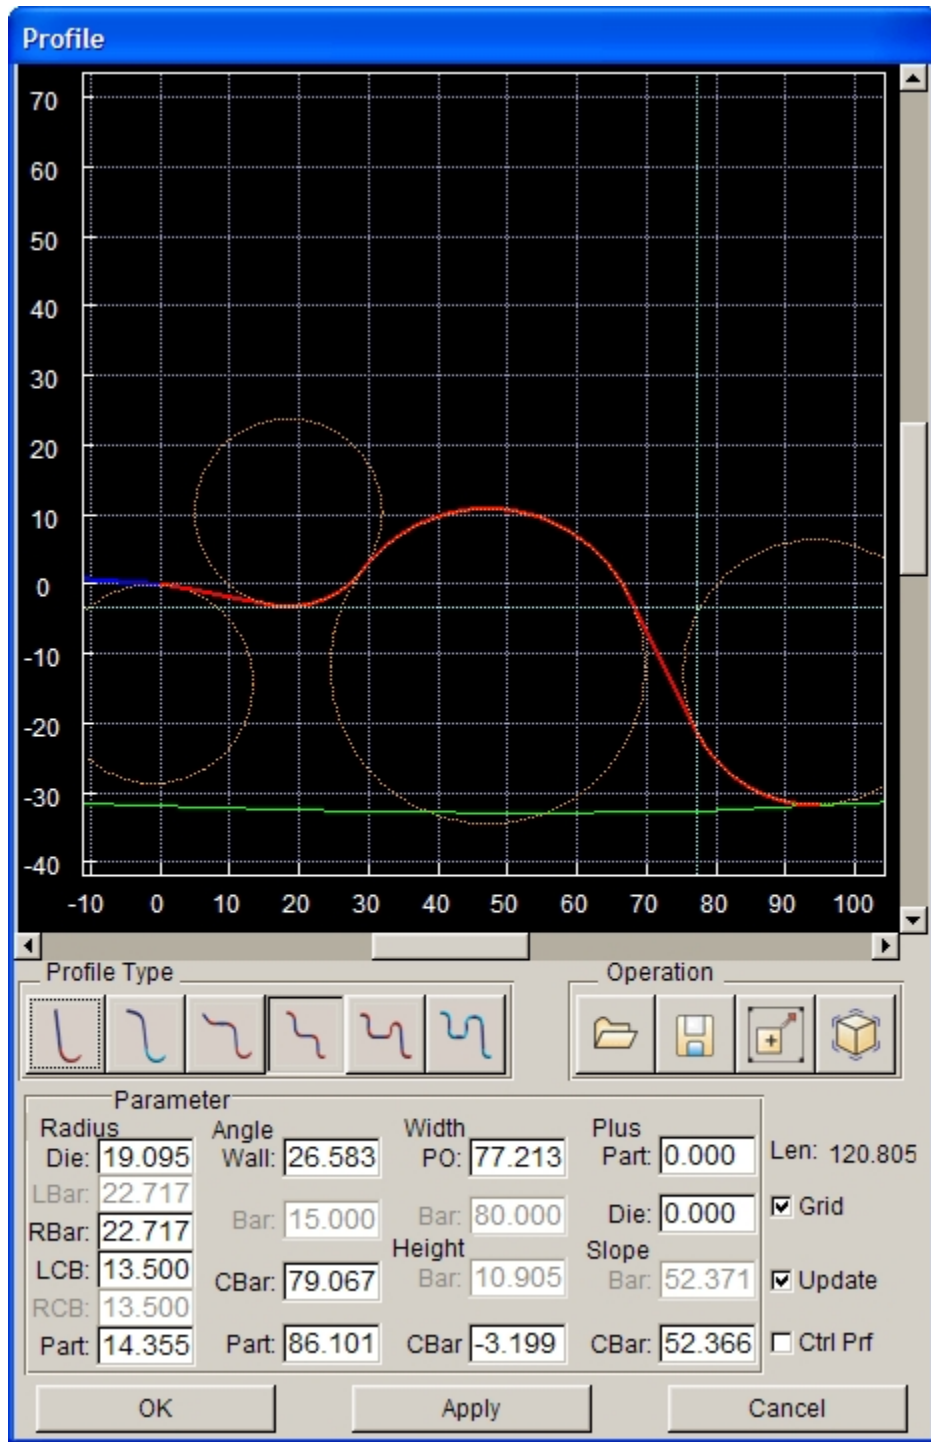

Figure 6.3.45 Modify Profiles
- After the profiles are selected, the PROFILE window is displayed as shown in Figure 6.3.45. The user can modify profile types and/or profile parameters. During modification of profiles, the grid will be displayed in profile window if the user selects GRID. If UPDATE is selected, the profile is highlighted. During modification of parameters, the change of profile can be viewed in real time in the graphic window. If CTRLPRF is selected, the shape transition of profile between adjacent or similar control profiles can be controlled. As profiles are modified, eta/DYNAFORM will update the profile in the graphic display window.